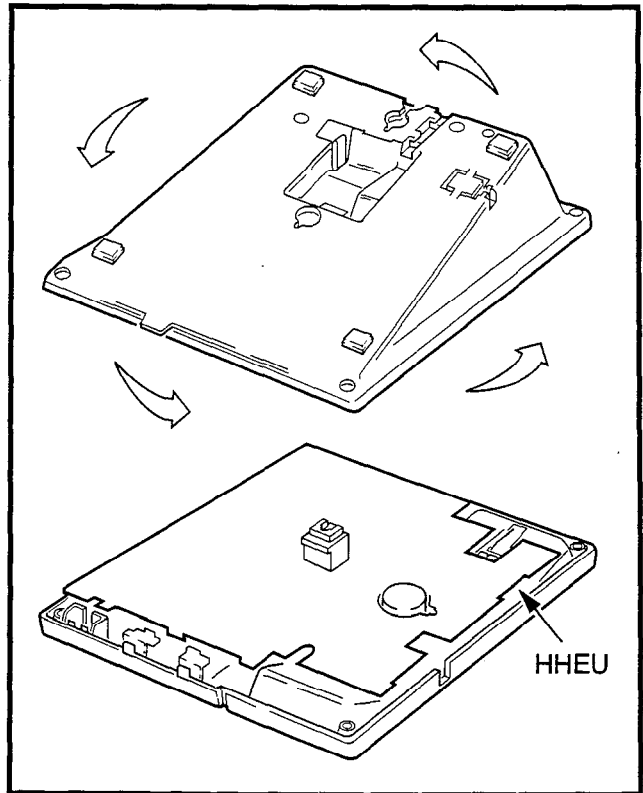

FIGURE 4-45—INSTALLATION OF MOUNTING BASE FOR WALL-MOUNT INSTALLATION
6.14 Rotate the mounting base 180° and secure to the telephone with the four captive screws (Figure 4-45).